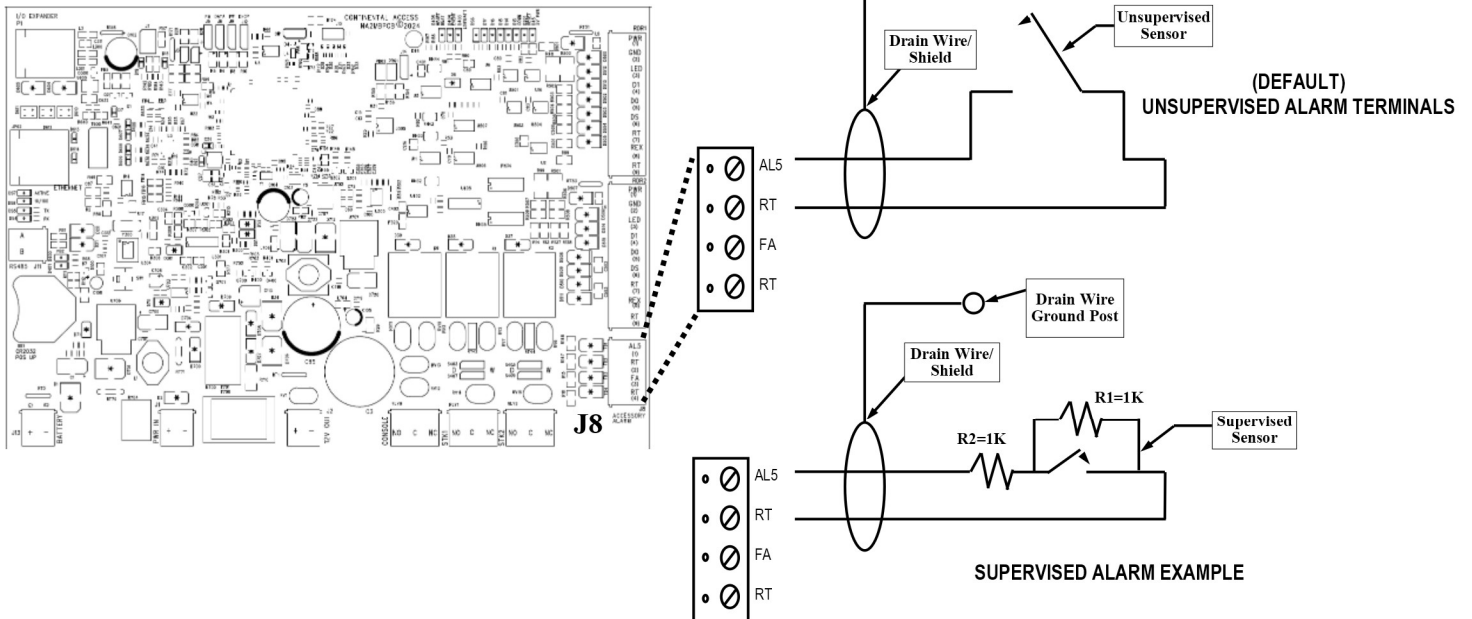

Figure 15 - ALARM Terminals - Unsupervised and Supervised Alarm Connections
One accessory supervised alarm input is available for use, located on the J8 Terminal block (see Figure 15). By default the input is set for a dry contact only and is unsupervised. Accessory alarms can be used for a tamper switch or any other alarm input device. If needed, see below on using Supervised Alarms.
2. Install R1 in parallel with the alarm contacts (see Figure 15).